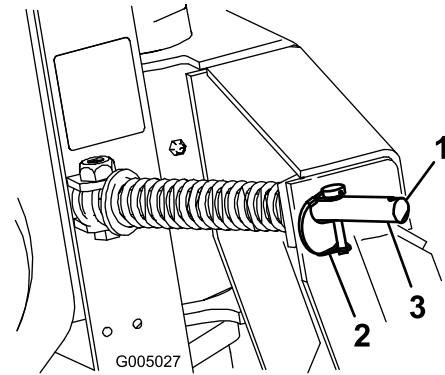

Figure 5
1. Move the lynch pins to the outside holes on the spring rods to allow the plow to move from side to side (Figure 5).
1. Move the lynch pins to the inside holes on the spring rods to prevent side to side movement (Figure 5).